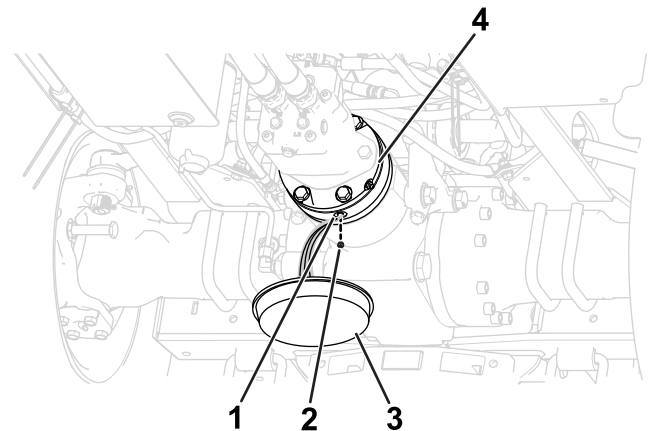

Figure 105
1. Place a drain pan under the hydraulic brake (Figure 105).
2. Remove the drain plug from the drain port (Figure 105).
4. Install the drain plug into the drain port (Figure 105).